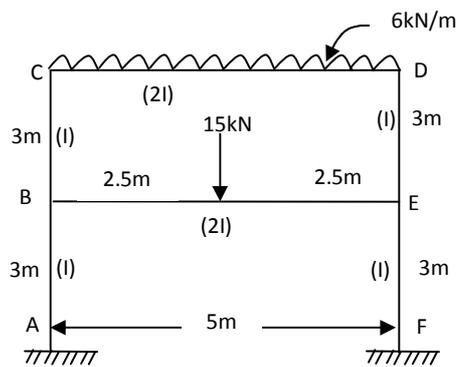

Fig.Q5
5. Analyze the frame shown in Fig. Q5 using Kani's method taking advantage of symmetry. Draw BMD